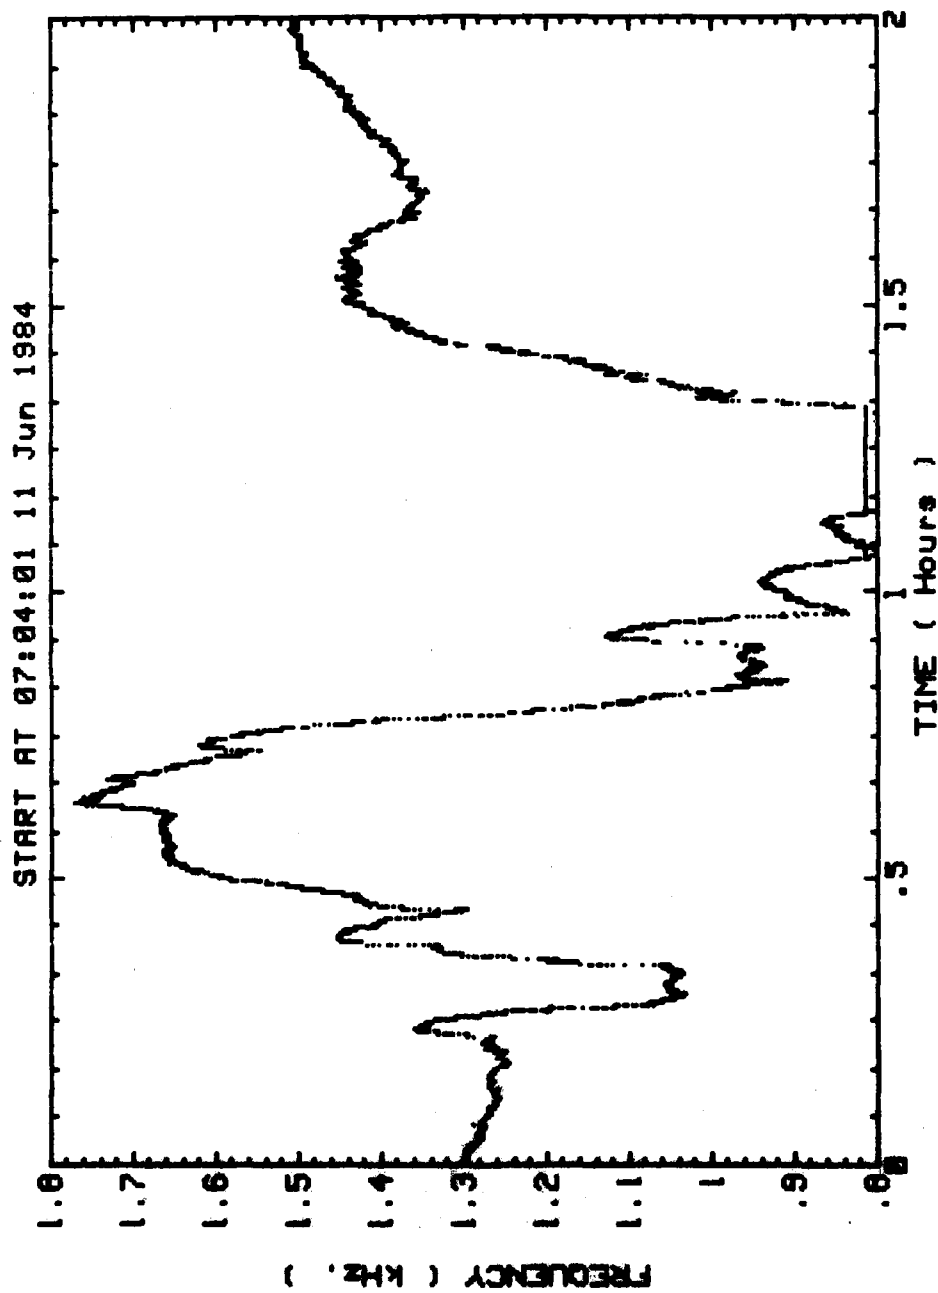

Figure 2. An example of frequency versus time plots, large graph.
When key 1 is in the ON position the same thing happens, but before starting a new graph on the screen when the plot reaches the right edge, the computer outputs, or dumps, the plot to the printer. Two sizes of plot are possible: the standard size shown in figure 1, and a double size plot shown in figure 2. To get the larger size plot, type DUMP DEVICE IS 701, EXPANDED